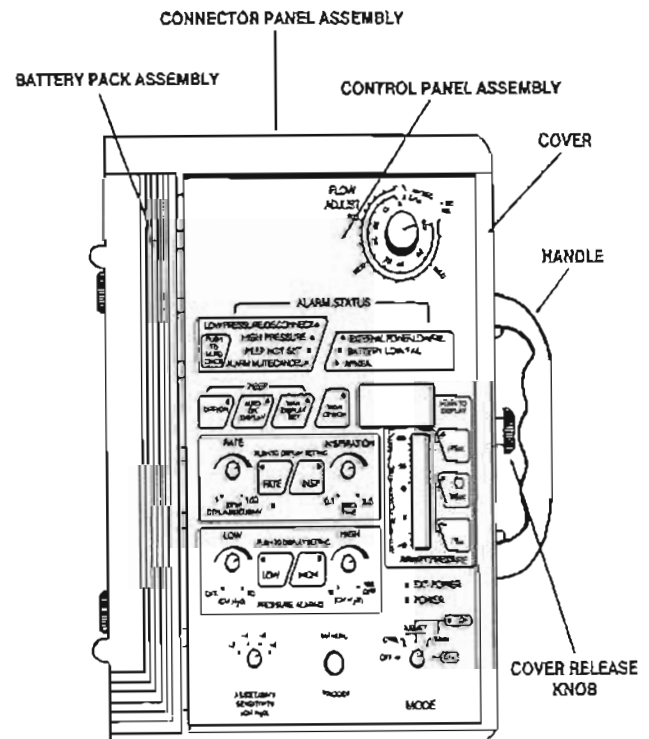

Figure 1-2. Control module.
a. *Control module (fig 1-2).* The control module incorporates a handle, a cover for the control panel, a cover for the battery pack assembly, and other assemblies which contain the various controls, indicators, displays, and connectors. The MODE selector switch is also the power switch to start or stop ventilator operation.